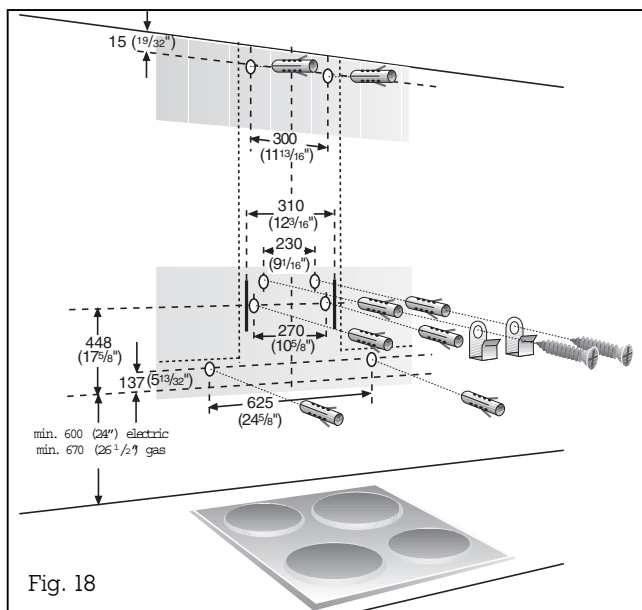

Fig. 18
- With the aid of the drilling template, mark the positions of the screws on the wall. Mark the contour of the hook-in area. This will make it easier to hook in the hood (Fig. 18).